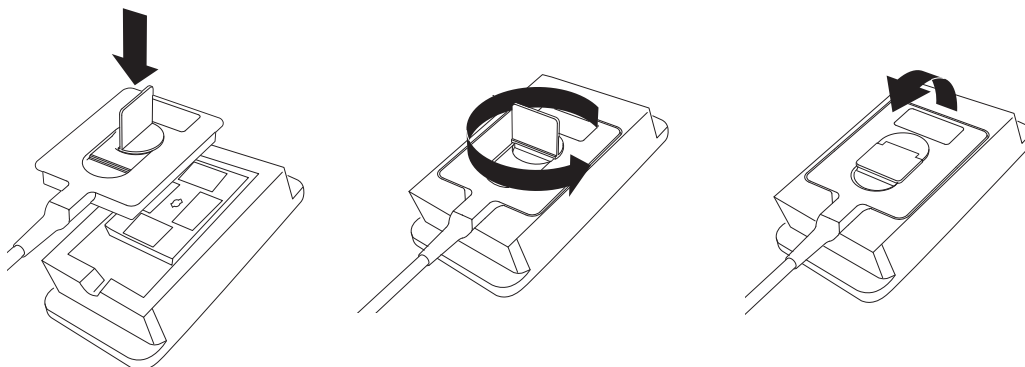

Figure 4-2 Insertion of the transducer connector
- 1 Insert the transducer connector into the transducer adapter as shown in Figure 4-2.